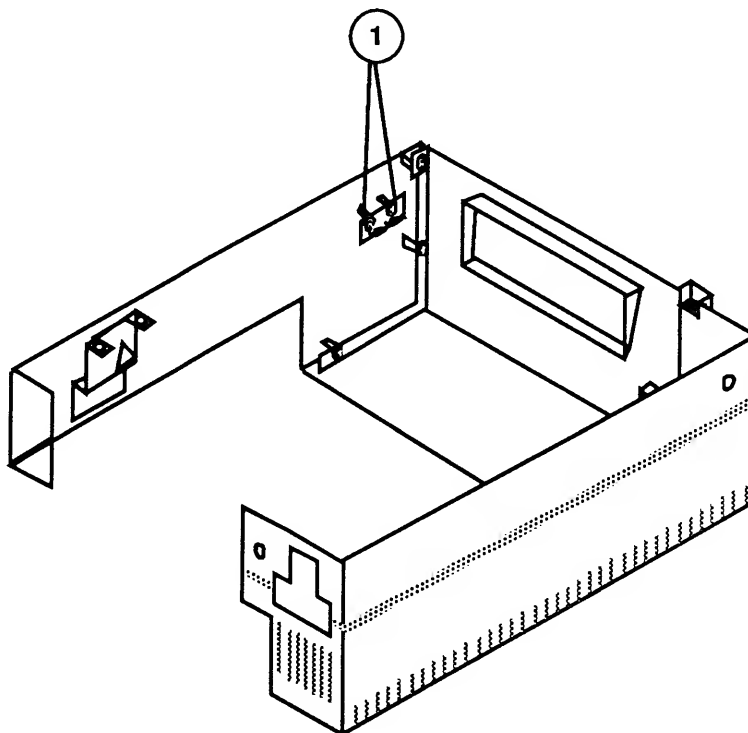

FIGURE 7
2. Remove the two Phillips screws that secure the status panel to the front panel (Figure 7, #1).